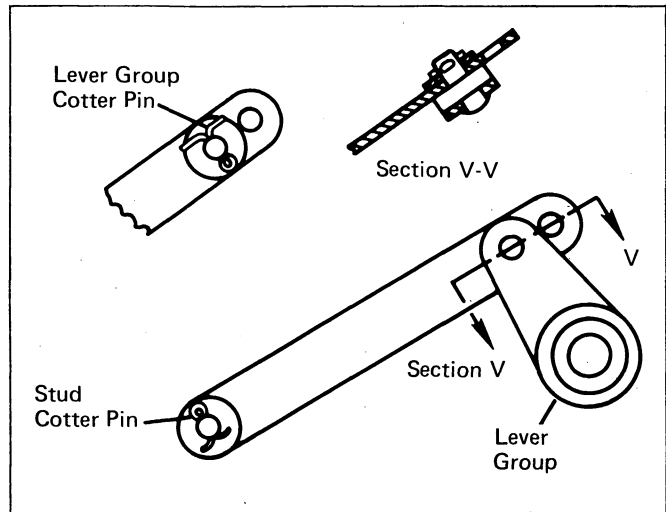

Figure 2. Proper Bend of Cotter Pins.
4. Attach the link from the stud to the switch shaft lever and secure with washers and cotter pins. Cotter pins must be bent as shown in Figure 2.